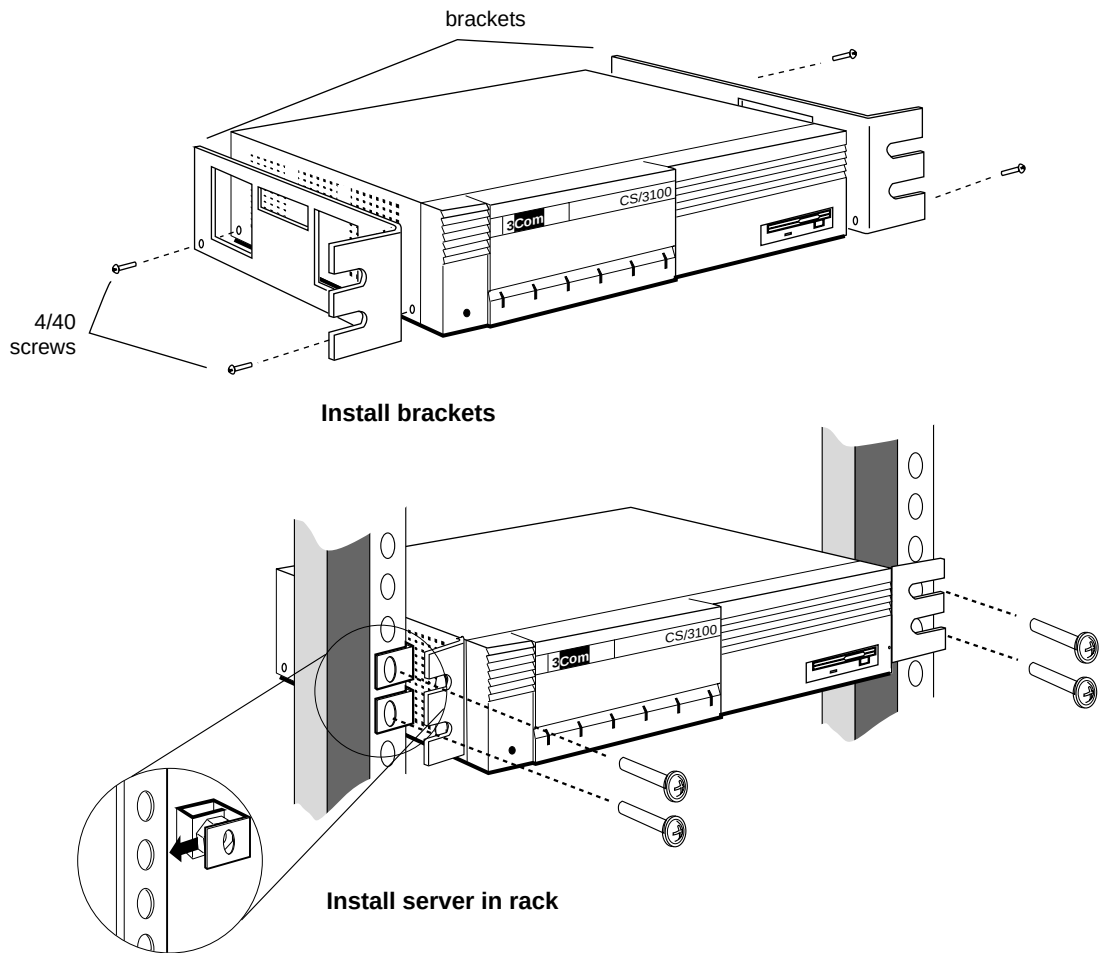

Figure 2-4 Mounting in a Rack
Remove the two outer screws from the sides of the server with the #1 Phillips screwdriver. Using the #4-40 screws provided, fasten a bracket to each side of the server, as shown in Figure 2-4. Tighten each screw securely.
- 2 Slip two spring-clip captive nuts over the holes of each rack pole where you plan to install the server (see Figure 2-4).
One person should hold the server between the poles of the rack, while the other attaches the server to the poles. Attach the server to the rack with the four #10-32 panhead screws using the #2 Phillips screwdriver, as shown in Figure 2-4. Tighten each screw securely.